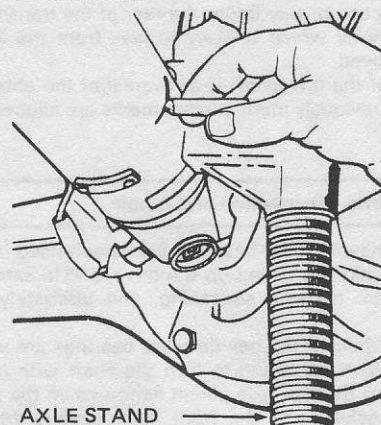

Fig. 7.2 Marking the driveshaft (Sec. 6)
- 5 An assistant should now place a crayon or piece of chalk so that it *just* contacts the rear end of the driveshaft. Obviously great care must be taken to avoid injury (Fig. 7.2).